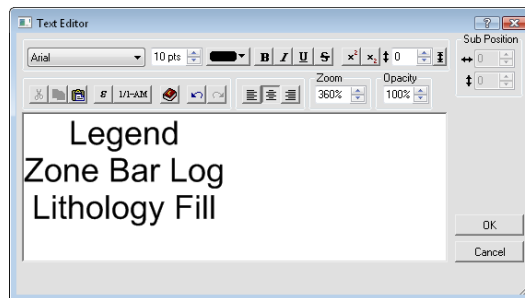

Figure 1.199 – Changing Legend Title.
4. In the *Text Editor*, type the text that should appear, such as, fig. 1.199: